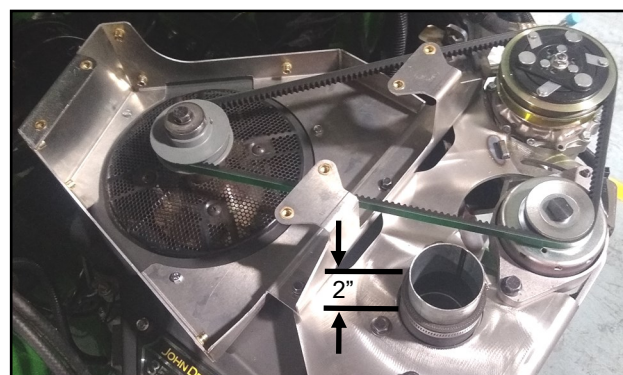

Fig. 2.15 (V-Belt Orientation)
- 2.15** Locate the supplied V-belt found in the large hardware box and install as shown in Figure 2.15. Once properly tensioned via the dynamo, ensure both dynamo bolts are fully tightened.
- 2.16** Remove the rag placed in the air filter extension hose in step 1.46. Slip the provided aluminum tube into the previously installed air filter extension hose installed in step 1.45. Keep the aluminum tube protruding 2" beyond the air filter extension hose. Secure with provided hose clamp. See Figure 2.15.